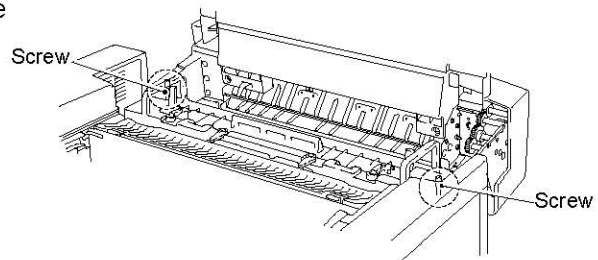

Fig. 6-15
- (4) Holding the handles at both ends of the fusing unit and remove the fusing unit from the printer. (Fig.6-15)
- (5) Remove the oil bottle and the fuser cleaner.